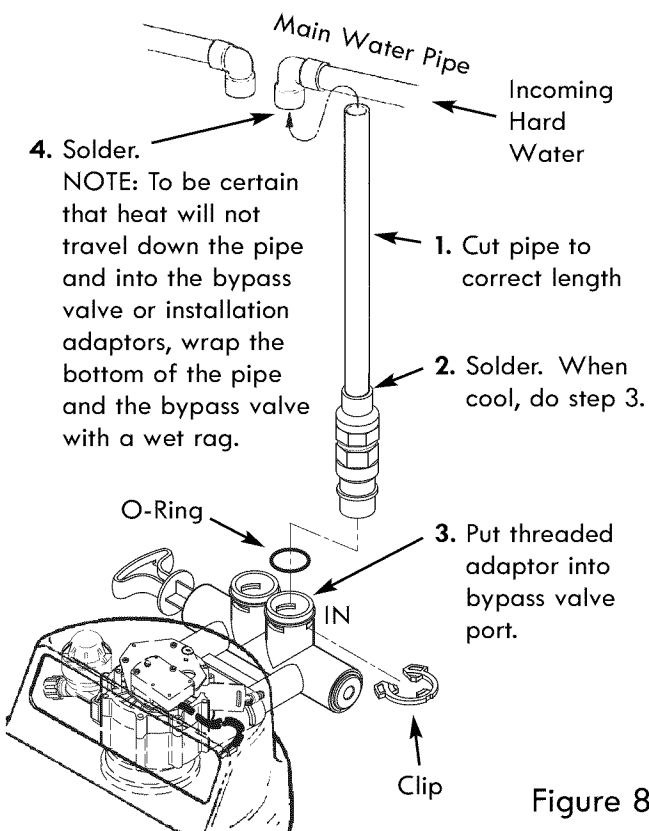

Figure 8
**CAUTION:** Never solder fittings while connected to nonmetallic parts. Wait until soldered pipe has cooled before connection. See Fig. 8.